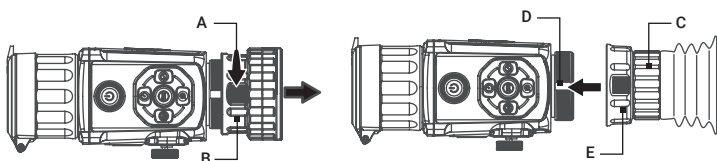

FIGURE 2-10. EYEPiece REPLACEMENT
1. Rotate the fixing ring (Figure 2-10, A) of clip-on output lens (B) counter clockwise to remove it.
2. Align the optional monocular eyepiece (C) with the grooves (D) of device, and rotate the fixing ring of eyepiece (E) clockwise to tighten it.